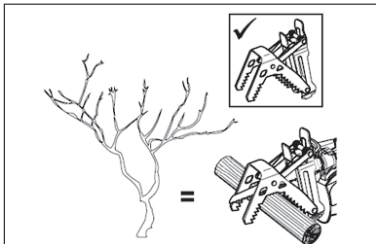

Fig. 9
The spiked bracket (1) helps to guide the product when cutting thinner round branches or poles (diameter less than 60 mm) (Figs. 9, 10).